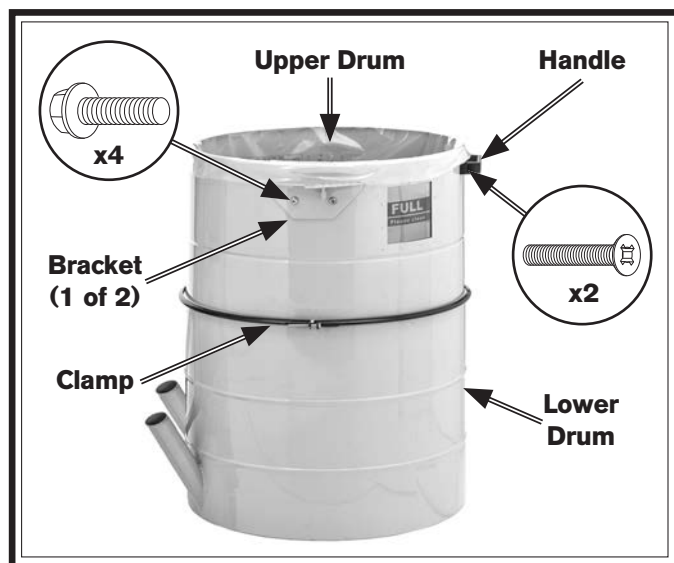

Figure 26. Drum brackets and handle installed (SB1094 shown).
- 20. SB1094 Only:** Attach upper drum to lower drum with drum clamp, then tighten pre-installed hex bolt to secure (see **Figure 26**).
- 21.** Attach left and right drum brackets to drum (see **Figure 26**) with (4) $\frac{5}{16}$ "-18 x $\frac{3}{8}$ " flange bolts.
- 22.** Attach handle to drum (see **Figure 26**) with (2) $\frac{1}{4}$ "-20 x $\frac{1}{2}$ " flat head screws.